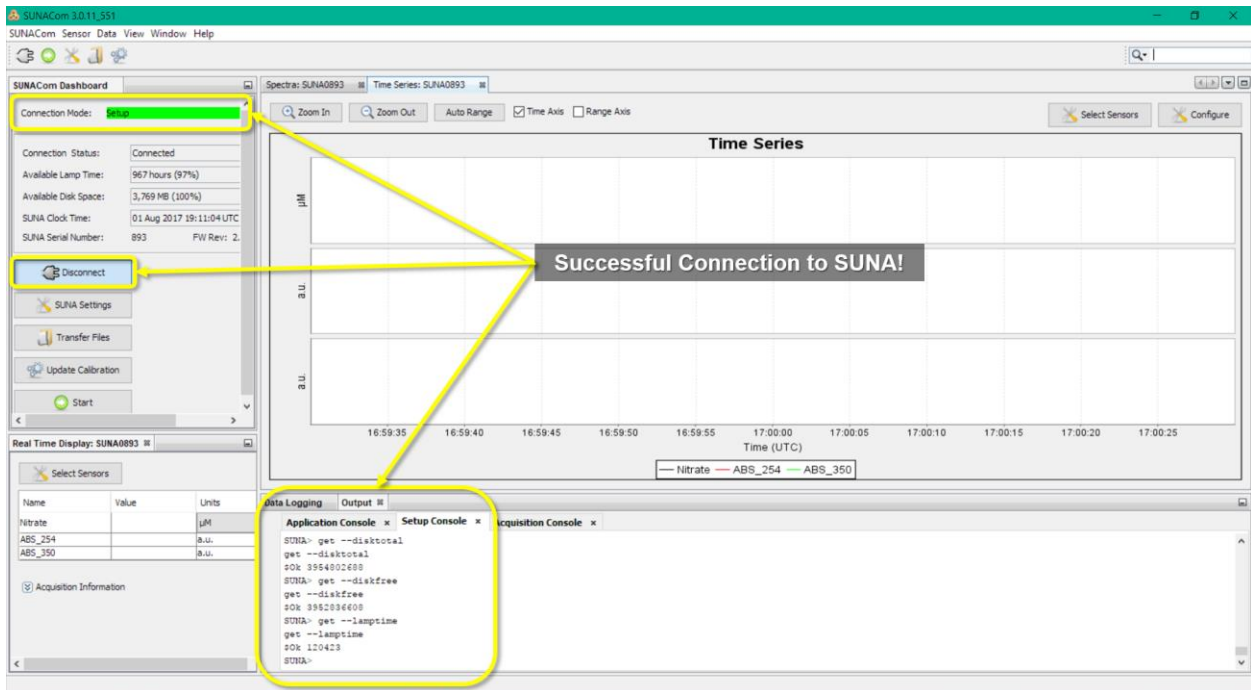

Figure 53. Successfully Connected to the SUNA
- The connection is successful with the **“Setup Console”** tab displays **“SUNA>”** and connection data is continuously scrolling up, and the **Connection Mode** is green (see Figure 53).